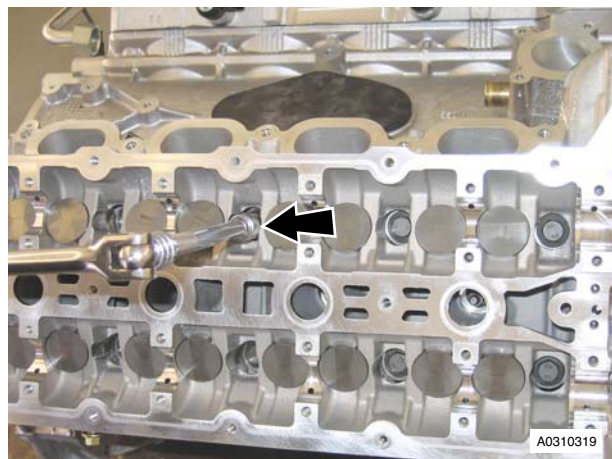

Figure 12
27. Remove the ten bolts evenly and in steps, that attach the right cylinder head to the cylinder block (refer to Figure 12).